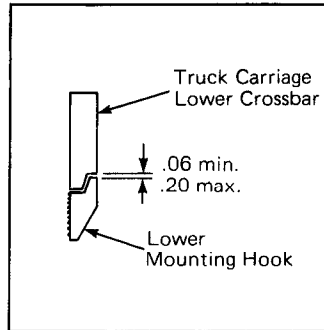

Figure 17. Lower Hook Clearance
2. Install the adjustable lower mounting hooks. **NOTE:** The hooks should not contact the truck carriage lower crossbar. The serrations on the hook allow you to move the hook up or down to attain a clearance between the minimum and maximum clearance shown in Figure 17.